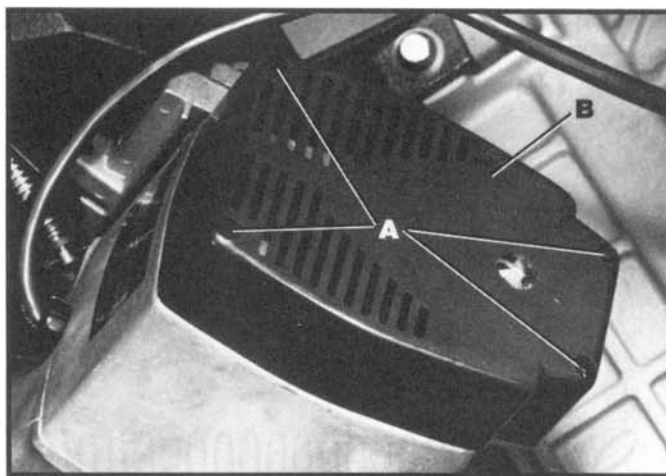

Fig. 49
4. Remove the four screws (A) Fig. 49, and cover (B) from the end of the motor housing.